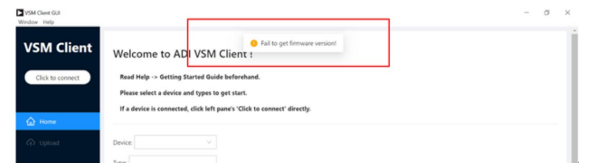

Figure 23. Failed to Get Firmware Version Error
- b. **Fail to get firmware version!** if this pop-up appears (see Figure 23), the firmware version may not match the software version. Update the firmware in the kit. For details on updating the firmware, see the EVAL-ADPD7000Z product page.